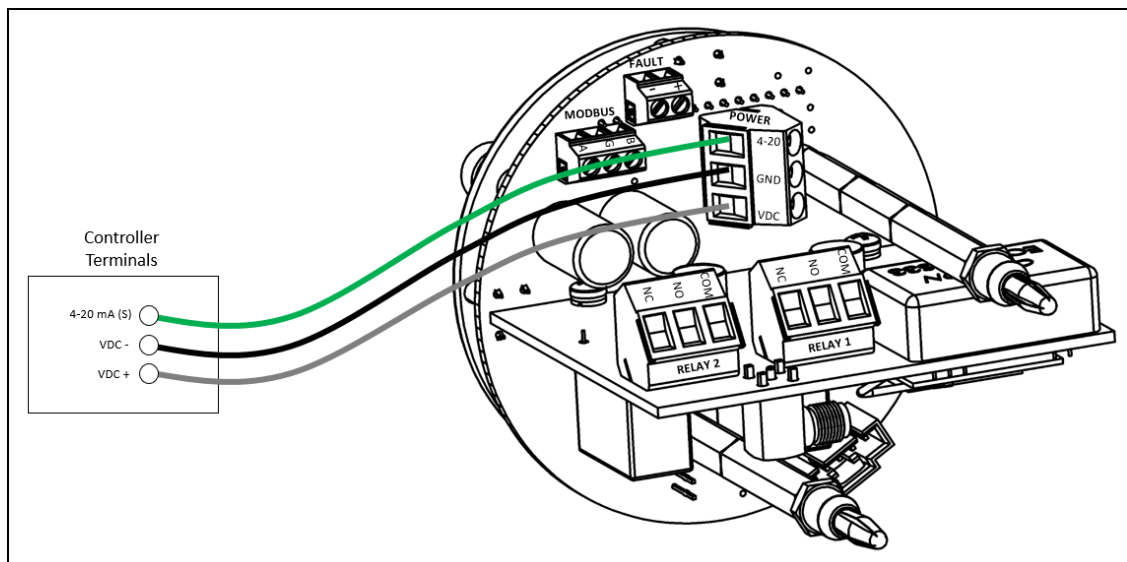

Figure 6: Wiring Power and Signal Wiring
4. Locate the power terminal block on the control board and complete the following (see Figure 6).
- Connect the signal (GREEN) wire to the **4-20 mA (S)** terminal.
6. Connect the wires to the applicable detector terminal strip at the controller as shown in Figure 6.